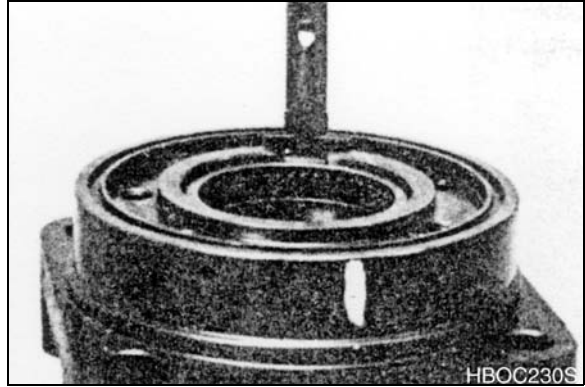

Figure 37
If the bearing mandrel specified in the "Tools and Materials Required for Servicing" section is not available and alternate methods are used to press in bearing/bushing (13) and (19) the bearing/bushing depths specified must be achieved to insure adequate bearing support and correct relationship to adjacent components when assembled. See Figure 37.